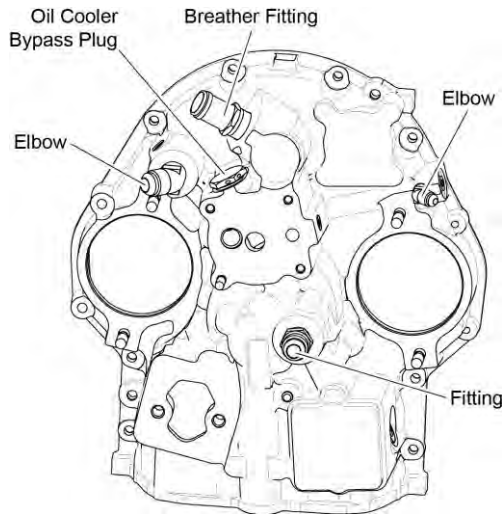

Figure 6
- B. Install plugs and fittings in the accessory housing (Figures 6 and 7) with a new O-ring as required.